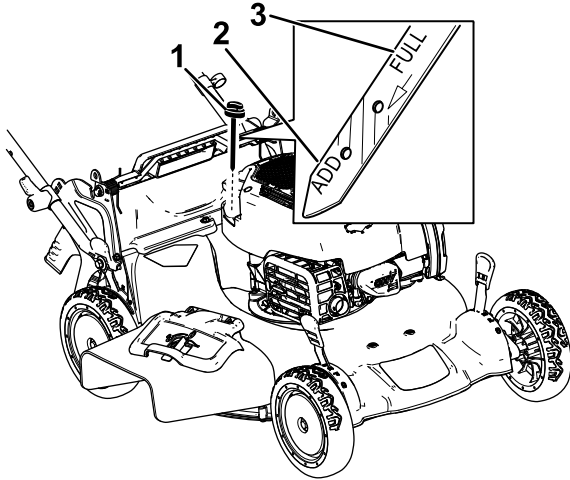

Figure 14
2. Remove the dipstick by rotating the cap counterclockwise and pulling it out (Figure 14).
5. Read the oil level on the dipstick (Figure 14).
- If the oil level on the dipstick is too low (Figure 14), carefully pour a small amount of SAE 30 or SAE 10W-30 detergent oil into the oil-fill tube, wait 3 minutes, and repeat steps 3 through 5 until the oil on the dipstick is at the correct level.
- If the oil level on the dipstick is too high (Figure 14), drain the excess oil until the oil on the dipstick is at the correct level; refer to Changing the Engine Oil \(page 16\).